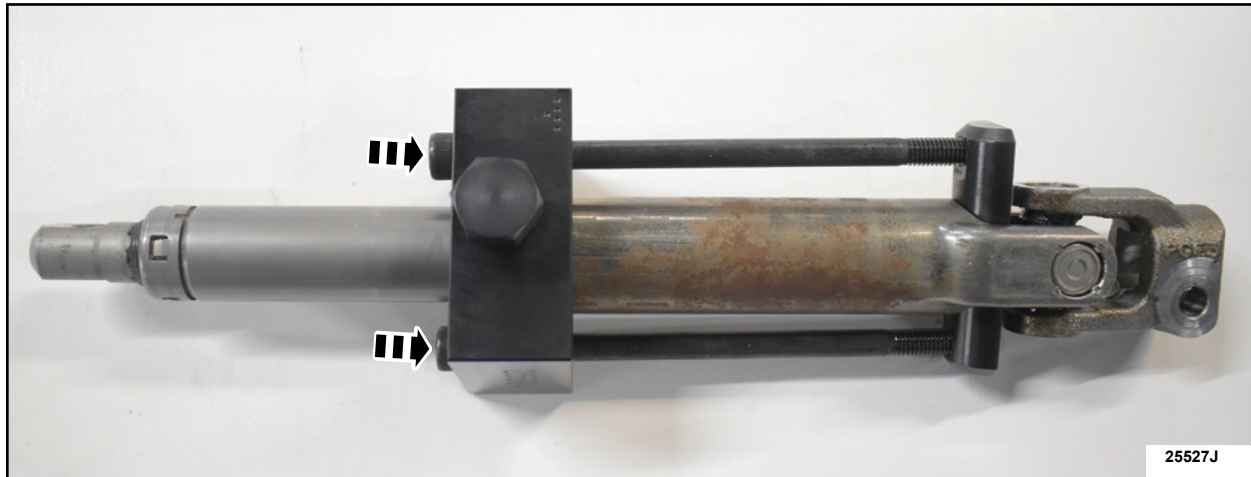

FIGURE 8
7. Evenly install the two Allen bolts to finger tight, then torque to the specification below. See Figure 8.